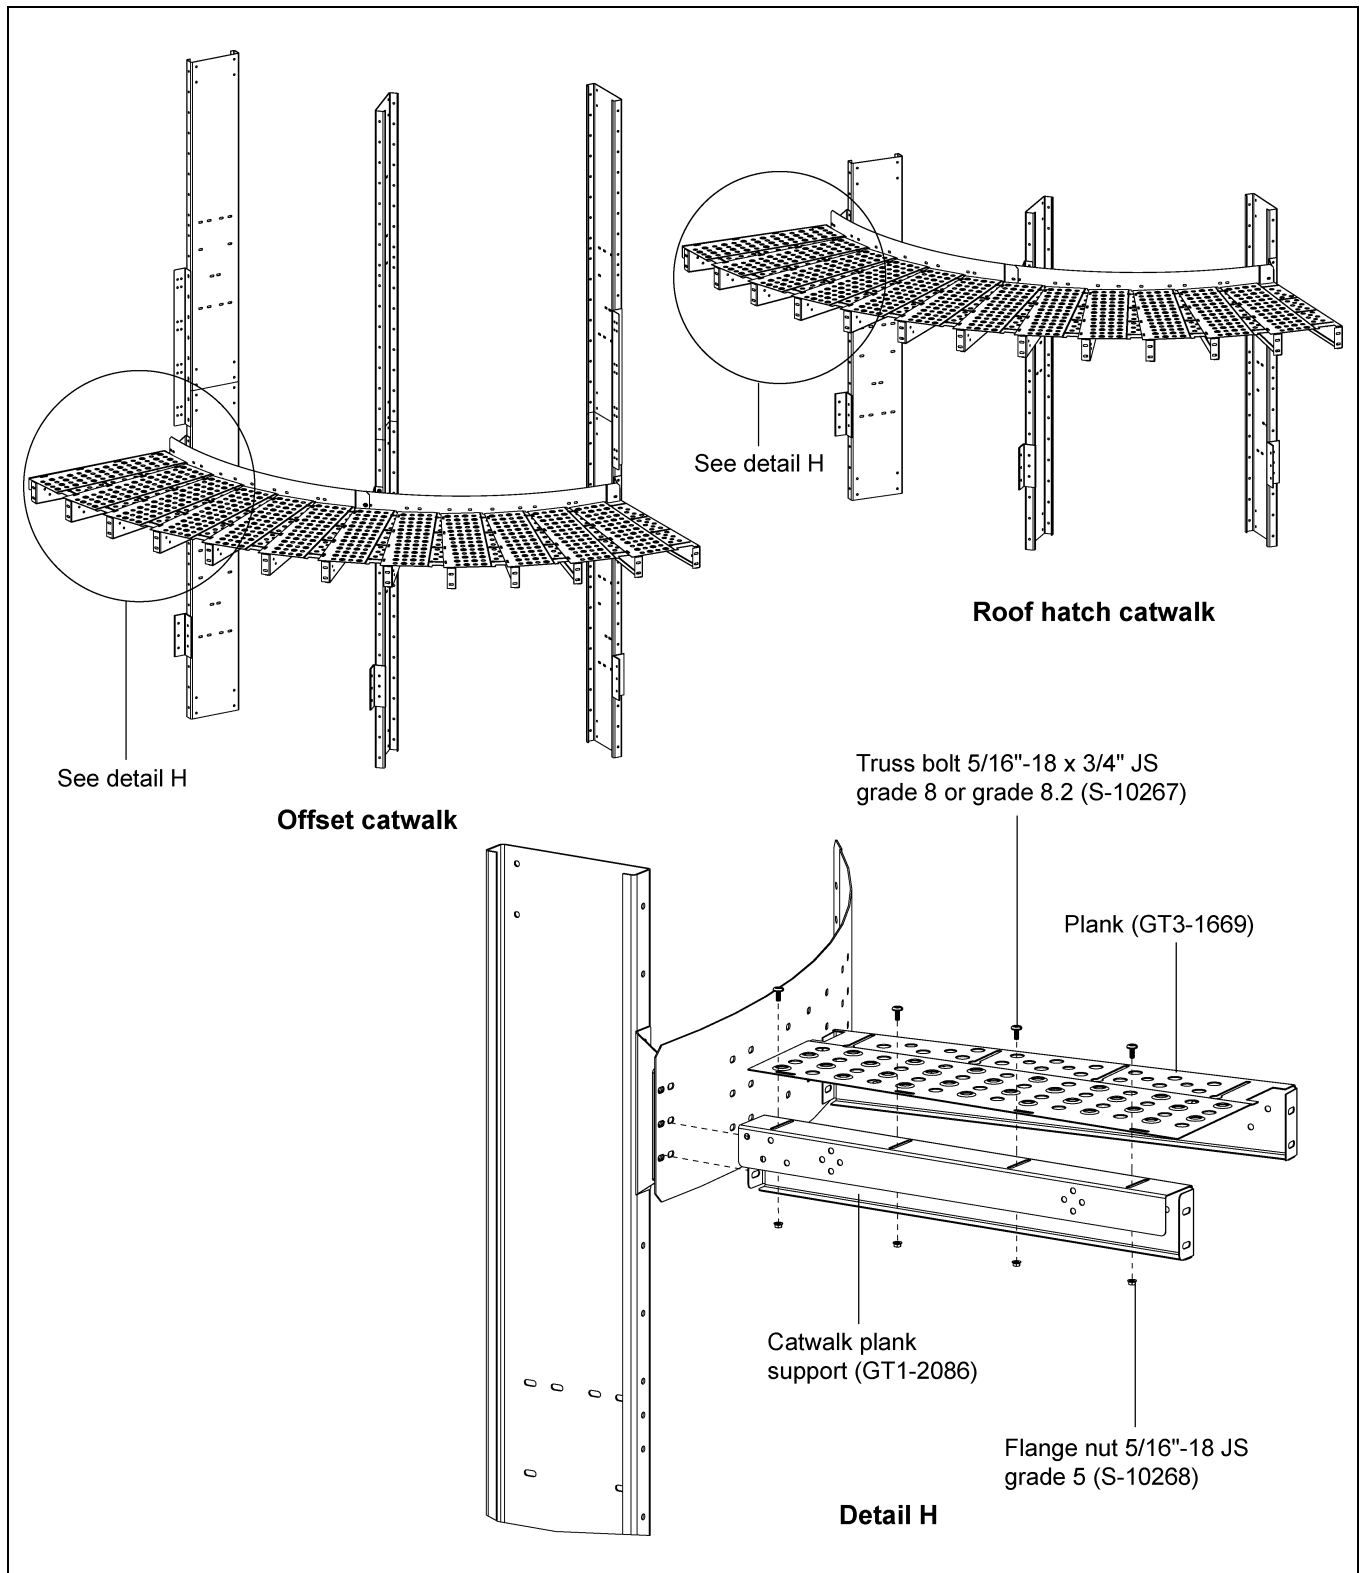

Figure 6R Plank Support (GT1-2086) Installation for Offset and Roof Hatch Catwalks
1. Once the planks are installed, install the plank support (GT1-2086) at the catwalk closing end using 5/16"-18 x 3/4" JS grade 8 or grade 8.2 bolts (S-10267) and 5/16"-18 JS grade 2 nuts (S-10268). (See Figure 6R.)